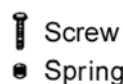

Fig. 2
- Please replace both azimuth adjustment screw and springs simultaneously when readjusting the head azimuth. (shown in Fig. 2) Even if you wish to readjust the head azimuth without replacing the screws and springs, a fine adjustment to the azimuth screw and spring.